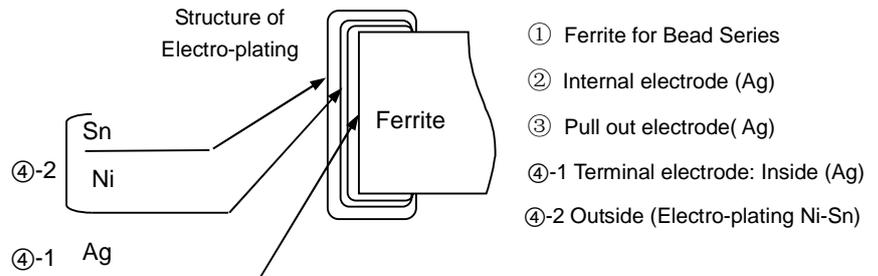

Fig. 4-4
- 4.2 Structure: See Fig. 4-3 and Fig. 4-4.
[Fig 4-4]